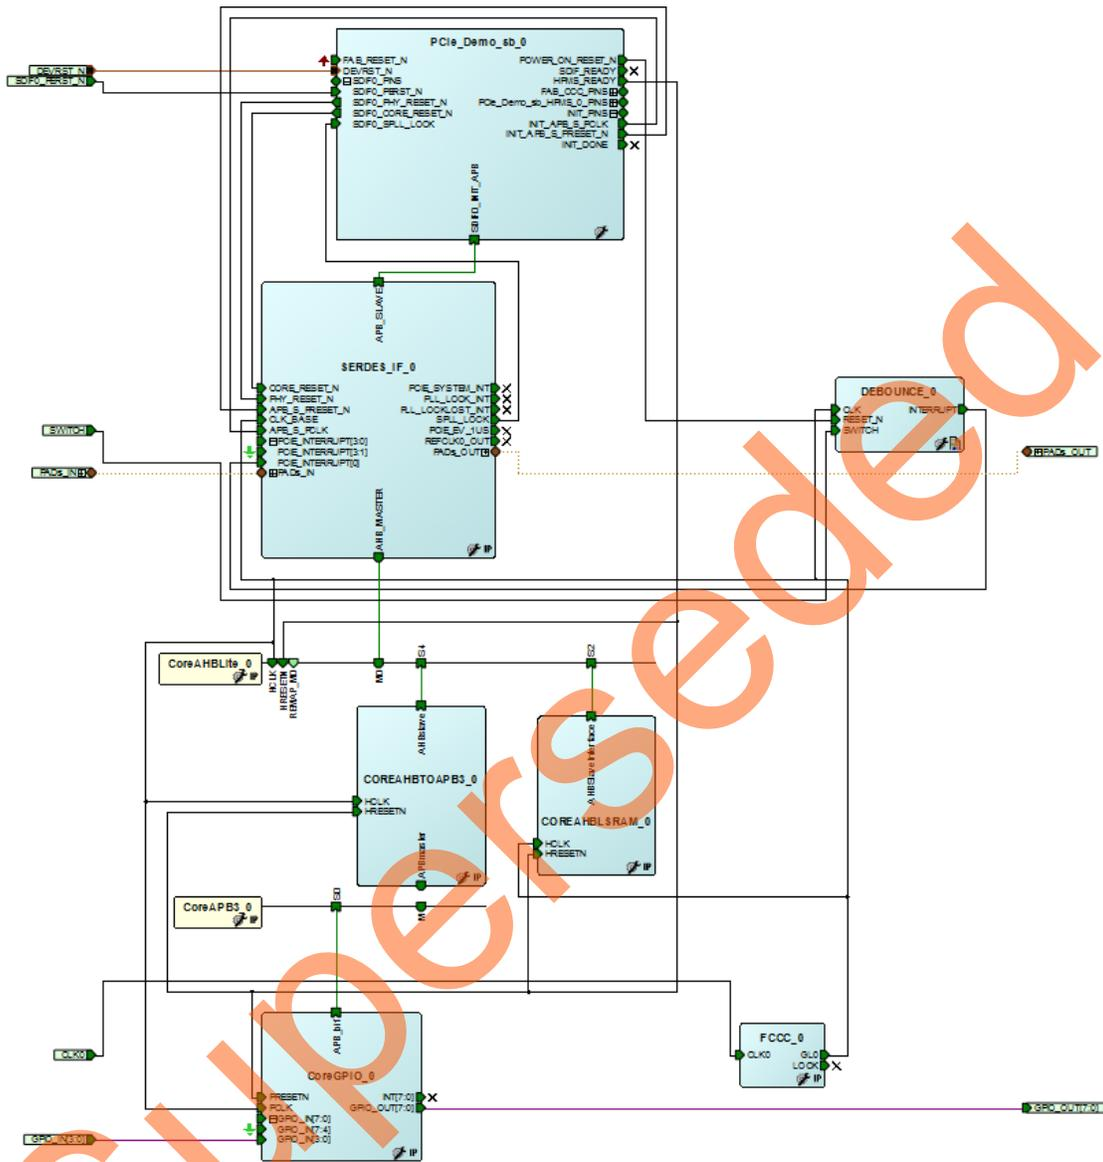

Figure 34 • PCIe_Demo_top Design
33. Click **Auto arrange instances** to arrange the instances and click **File > Save**. The PCIe_Demo_top is displayed as shown in Figure 34.